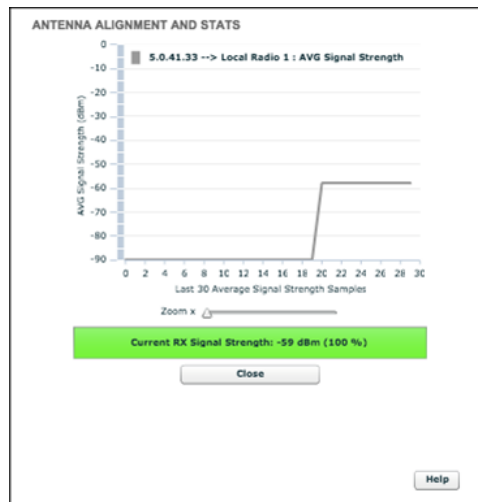

Figure 25. Antenna alignment and stats tool
- The **ANTENNA ALIGNMENT AND STATS** tool will be shown (Figure 25 (page 70)).